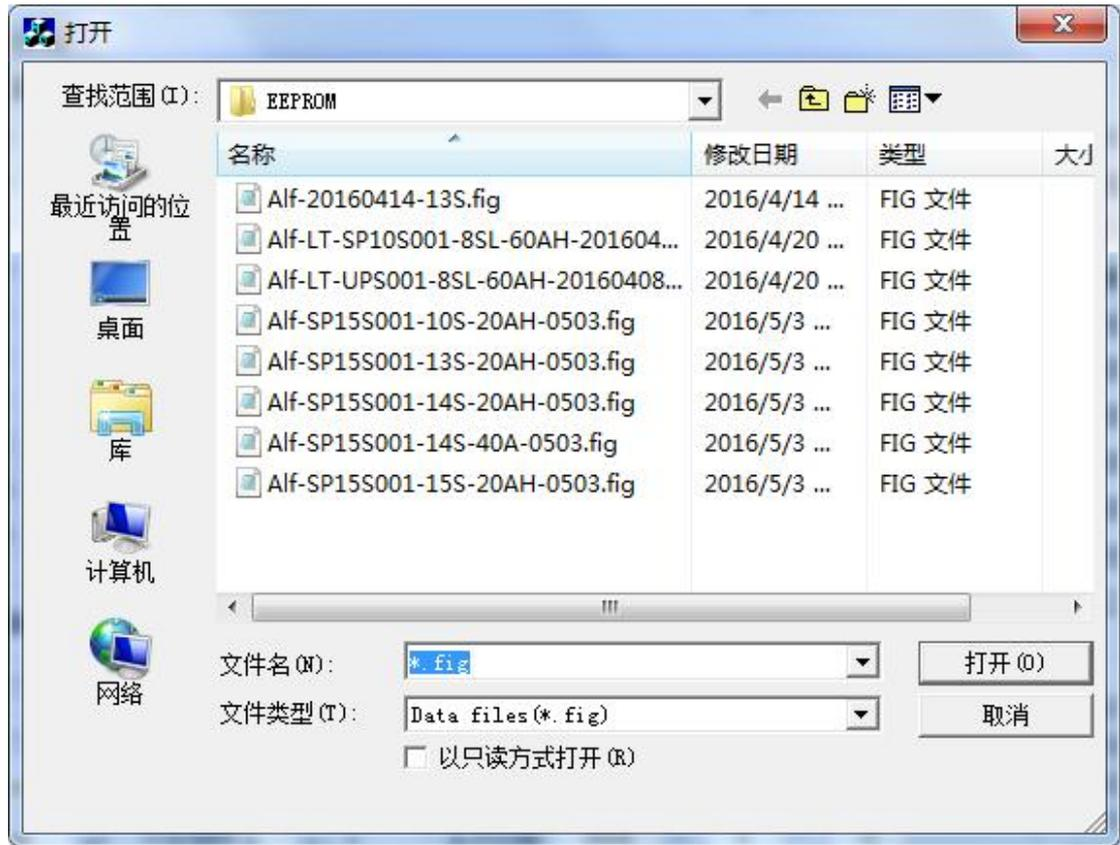

Figure 9
**4. Open the file:** its function to open the previously saved parameters to the PC software, It can be used to view or modify, and then write or save. See Figure 9 for details.